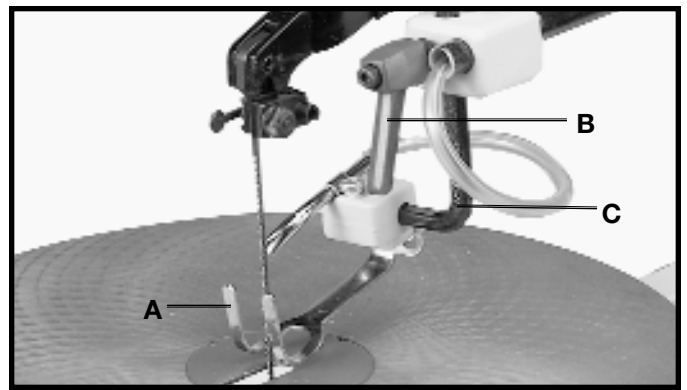

Fig. 34
The holddown (A) Fig. 34, should be adjusted so it contacts the top surface of the work being cut by loosening lock handle (B) and moving holddown rod (C) up or down. Then tighten lock handle (B).